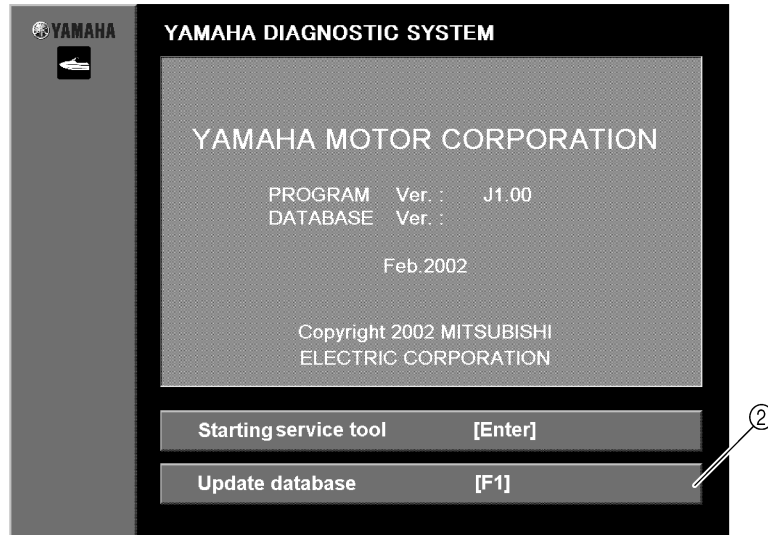

Fig. 12
3. After about three seconds the display will automatically go to the first menu display, or you can click or press any key to go to the first menu. (See fig. 12.)
4. Click the **Update database [F1]** button or press the F1 key on your keyboard. (Fig. 12)
①